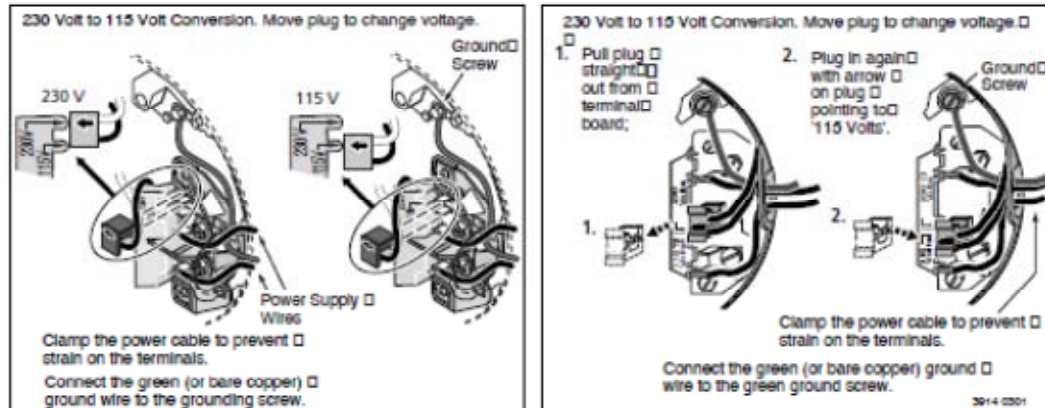

FIGURE 3 – 115/230V Dual Voltage Single Phase Wiring Diagram – ODP Motors
7. Connect current carrying conductors to terminals L1 and L2 under motor canopy. When replacing motor, check wiring diagram on motor nameplate against Figure 3. If the motor wiring diagram does not match either diagram in Figure 3, follow the diagram on the motor.
IMPORTANT: 115/230 Volt single phase models are shipped from factory with motor wired for 230 volts. If power supply is 115 volts, remove motor canopy and reconnect motor as shown in Figure 3. Do not try to run motor as received on 115 volt current.